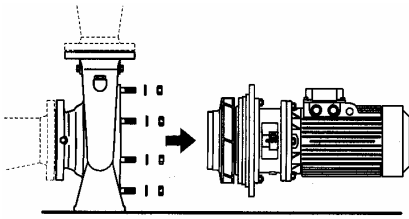

Fig.: 6
4. *Start up the basin water recycling pump, checking the direction of rotation which is marked by an arrow on the pump and the electric values of tension and intensity which should not overcome the suitable ones in the motor label. In some cases, due to oxidation for the rain water, the impeller of the pump can present a slight blockade. In this case stop the pump immediately and to unblock the impeller manually disassembling the pump if necessary. (To see Fig. 6)*
3. Extraer el conjunto del motor y partes móviles del cuerpo de la bomba.(ver fig.: 6)
3. *Extract the motor and mobile parts of the pump. (See fig.: 6)*